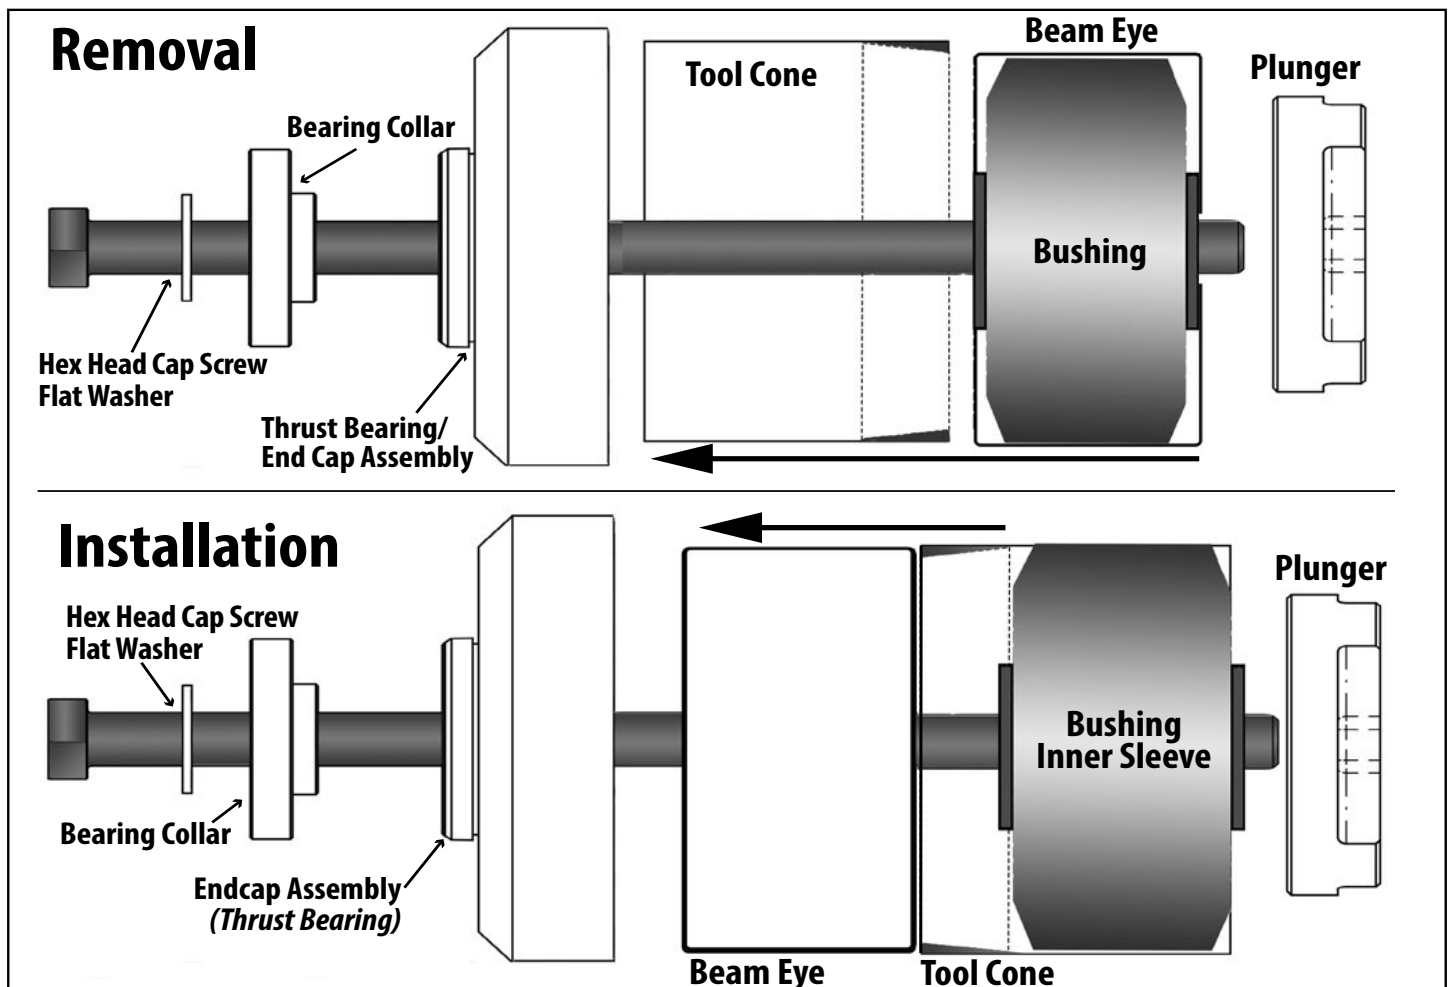

Figure 8.
Thread the flat washer, the bearing collar and the endcap onto the HHCS until the bearing collar and endcap rest against the head of the HHCS. Place tool cone onto endcap (Figure 8).
1. Push the hex-head cap screw through the bushing inner sleeve until the tool cone is against the beam eye. Thread the plunger onto the HHCS until the tool cone is held firmly against the beam (Figure 8).
Thread the flat washer, the bearing collar and the endcap onto the hex-head cap screw until the bearing collar and endcap rest against the head of the HHCS (Figure 8).